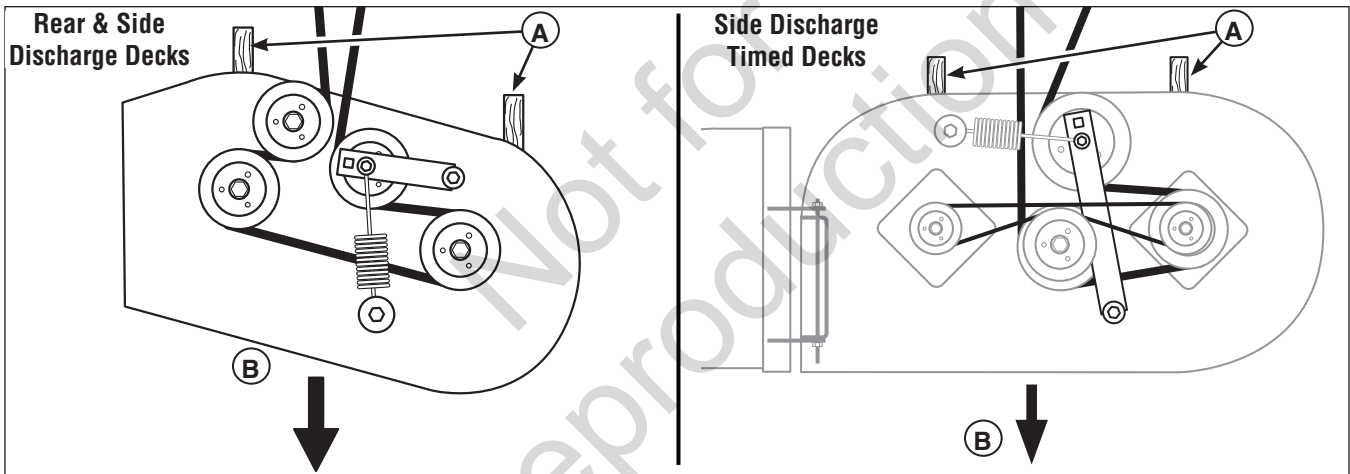

Figure 29. 2 x 4 Locations
5. Loosen the deck leveling hardware (B, Figure 29) on both sides of the machine.